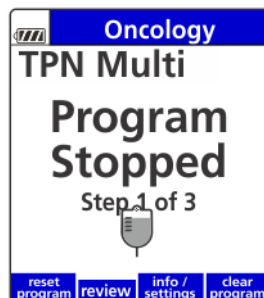

Figure 73. Multi-Step Stop Screen Showing reset program Soft Key.
8. The program will be retained indefinitely during power-off cycles until reset. To reset the program, press the **reset program** soft key from the program stopped screen. See Figure 73.